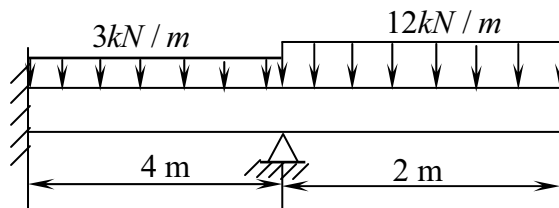

Fig. 3
- 18 The beam shown in Fig. 3, determine the unknown deflections and slopes. Also determine the